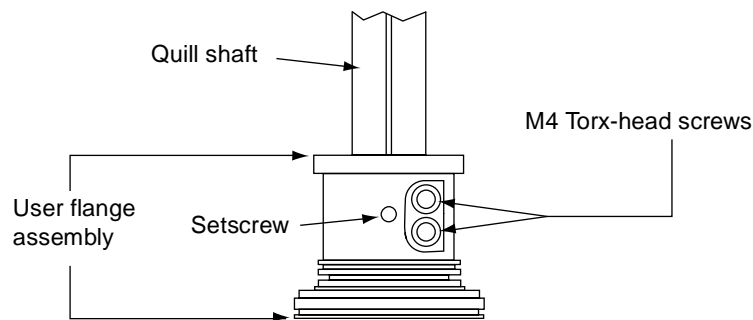

Figure 6-1. User Flange Removal Details
3. Use a 2.5 mm Allen driver to loosen the setscrew (see Figure 6-1). Note the vertical-spline groove that is in line with the setscrew. You must replace the flange in the same position.